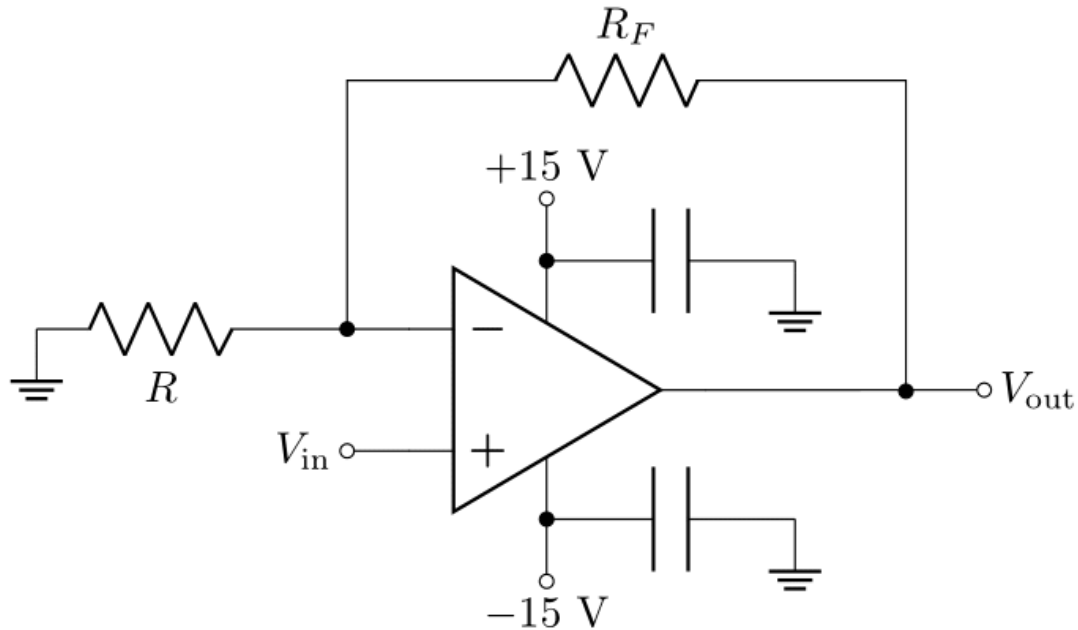

Figure 16: Non-inverting amplifier
2. Change the negative feedback loop in your circuit to the one shown in Figure 16, with $R_F = 10 \text{ k}\Omega$ and $R = 100 \Omega$ (or build a new one elsewhere on your breadboard).